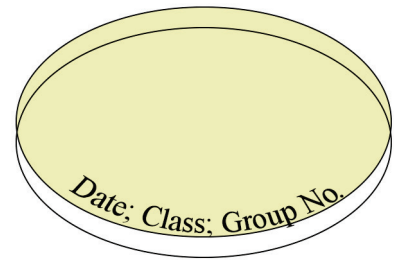

Fig. 1 LB agar plate
2. Label the LB agar plate with the date of the experiment, your class, and the group number (Fig. 1).